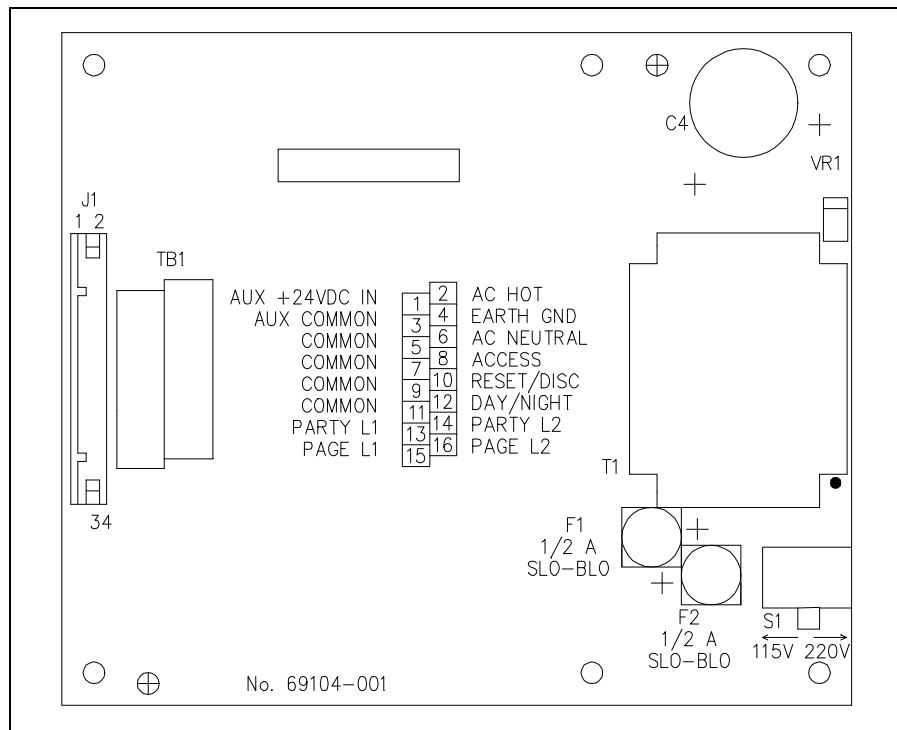

Figure 2. Termination Area
4. Connect the conduit to the TI984, and run the wires through the conduit to connect power and signal lines to the proper terminals as shown in Figure 2.